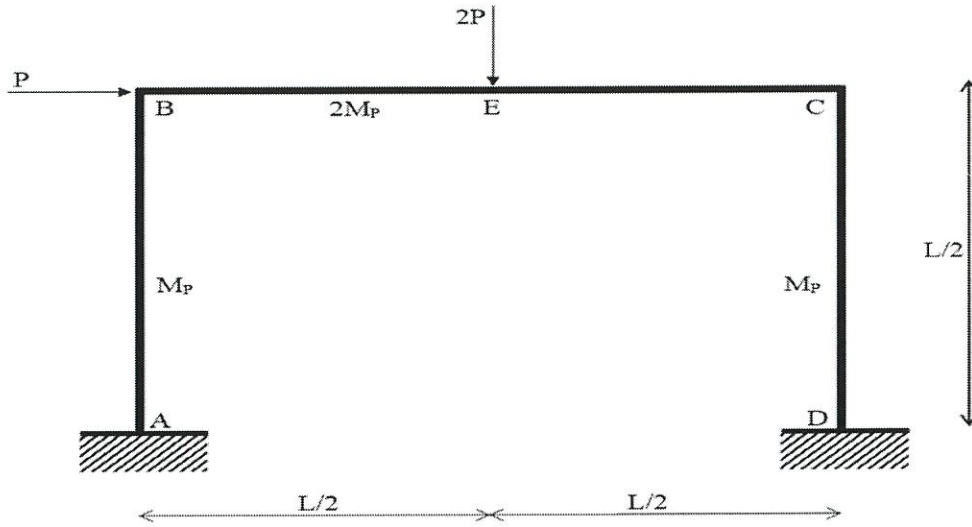

FIGURE Q1
- Q1** (a) Explain **THREE (3)** fundamental conditions for plastic analysis. (3 marks)
- (b) A rigid frame structure that is subjected with a vertical load $2P$ at point E and a horizontal load P at point B is shown in **FIGURE Q1**. Solve the following problems.